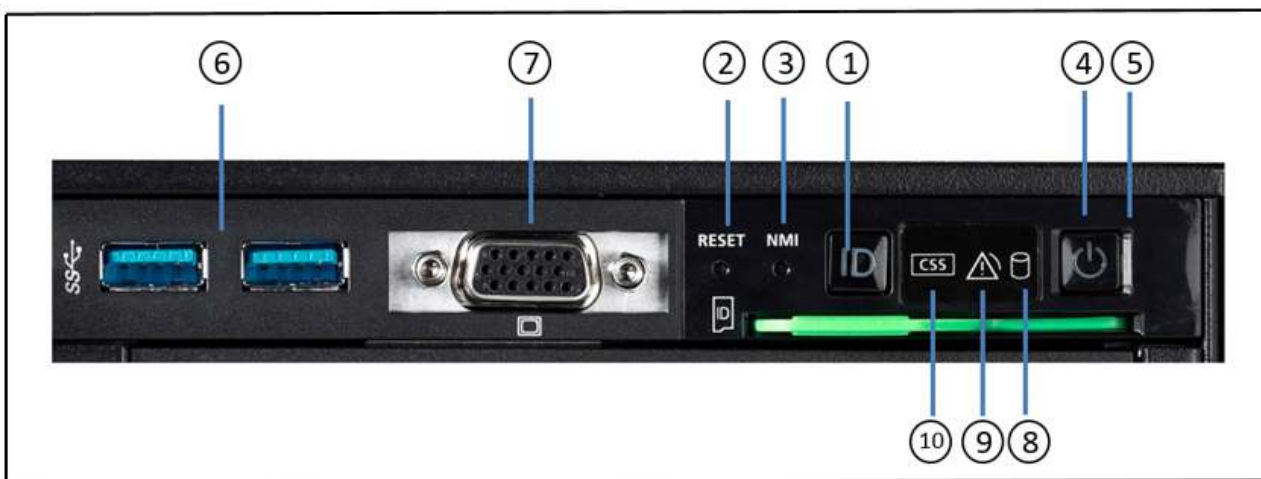
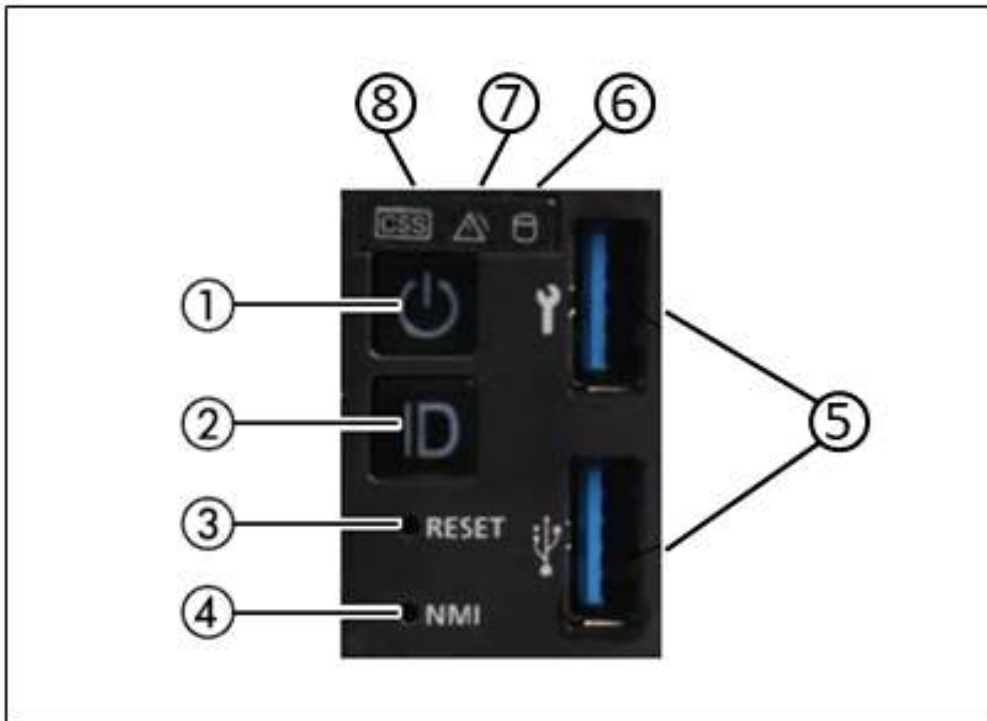

Figure 2: SU310 front - Detailed view: Operating panel
Figure 4: SU320/SU330/SU330B/SU340 front - Detailed view: Operating panel
Before the Server Unit is switched on, the power status indicator lights up green (item 5 in figure 2) resp. on SU320, SU330 / SU330B and SU340 the status indicator (item 1 in figure 4) lights up white.
The On/Off switch / status indicator lights up green (item 4 in figure 2 resp. item 1 in figure 4). The Server Unit switches on, conducts a system test and starts X2000.
Before the Server Unit is switched off, the On/Off switch / status indicator lights up green, and after the Server Unit has been switched off it no longer lights up resp. on SU320, SU330 / SU330B and SU340 lights up white (item 4 in figure 2 resp. item 1 in figure 4).
The power status indicator (item 5 in figure 2, only on SU310) lights up green when the server is switched off but connected to the power supply (power cable connected).
4	Operating panel (for details see figure 2)
4	Operating panel (for details see figure 4)